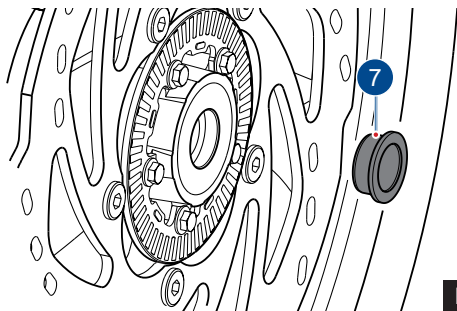

Fig. 57
- Take out the spacer bush (7) from the left side of the wheel hub (ref. Fig. 57).
- Loosen the mounting screw (8) and take out the speed sensor (9) from front suspension.
- Fix the spacer bush (7) on the left side of wheel hub (ref. Fig. 57).